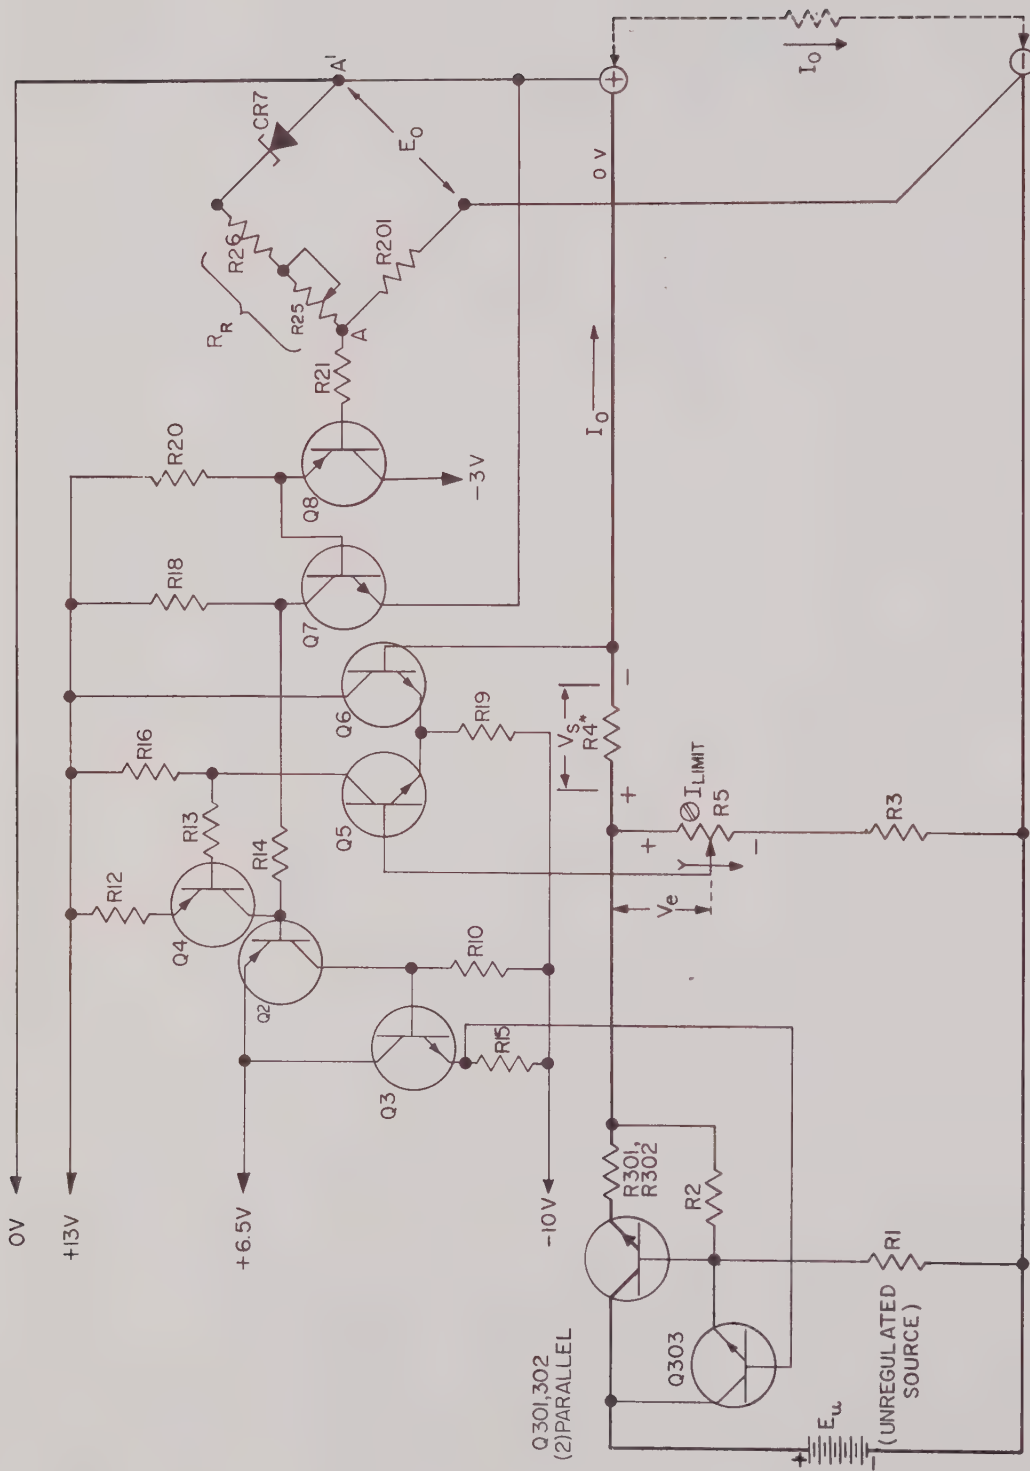

FIG. 4-3 PAR AMPLIFIER DETAIL
4-4 Pass Element Circuitry. (Refer to FIG. 4-3) The pass elements (or series control transistors) Q301 and Q302 are connected in series with the output terminals, so that the unregulated voltage (E_u) from the main power source is divided between them and the load. By changing the equivalent resistance of the series control elements, the voltage drop across them is made to change in such a way as to maintain a constant output voltage. The base drive current necessary for the pass elements to effect this change is supplied by the driver transistor Q303, which in turn is driven by the pre-driver and amplifier transistor Q2. Resistors R1, R10 and R15 are connected to sources of reverse bias, so that in the absence of a "turn-on" signal from the error signal amplifier, all driver and series control transistors will be held in the cutt-off condition.
4-6 Error Signal Amplifier. (Refer to FIG. 4-3) This high gain DC amplifier has the function of amplifying the error signal produced at the bridge terminals AA'. The null point of the bridge (A) is connected through R21 to the base of Q8 which, as an emitter follower drives Q7, connected in the common emitter mode. Q7 and Q8 therefore comprise the input stage of the amplifier. From the collector of Q7, the signal is transferred through R14 to the second voltage amplifier stage Q2, also operated in the common emitter mode. The emitter of Q2 is returned to a low impedance voltage source, the value of which sets the operating point of Q7. The collector of Q2 is directly connected to the base of Q3 which is operated as an emitter follower and functions as the pre-driver amplifier. Its emitter drives Q303, the main driver stage which finally in turn drives the bases of the series regulator transistors.
4-7 The Overload Circuitry. (Refer to FIG. 4-3) The PAR current limiting circuitry consists basically of the differential amplifier pair Q5 and Q6, inverting amplifier Q4 and a resistive network comprised by R3, R4* and R5. Current sensing resistor R4*, connected in series with the positive output lead, develops a voltage (V_s) proportional to the output current (I_o). A corresponding voltage is developed by the voltage divider consisting of R3 and R5 and is available at the movable tap on R5 (V_E). Both voltages are applied to the respective bases of Q5 and Q6. The action of the current limiting circuit depends on the relative magnitude of V_s and V_E . Since Q5 and Q6 are NPN transistors, the one with the more positive base voltage will conduct. Normally Q5 is biased off since V_E is set to a negative value (0.5V typical). Q5 can not conduct unless V_s (which opposes V_E) exceeds this value. As long as V_s is less in magnitude than V_E , Q6 will conduct, Q5 and consequently Q4 will cut off and the action of the regulator will not be affected.